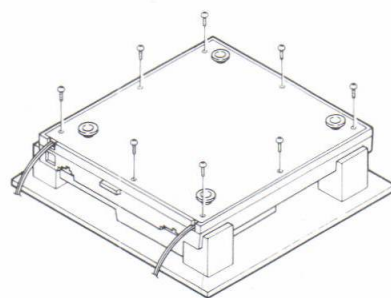

Fig. 3
3. Remove the eight Screws (204) securing the Bottom (14), then remove the Bottom (14). (Figure 3)